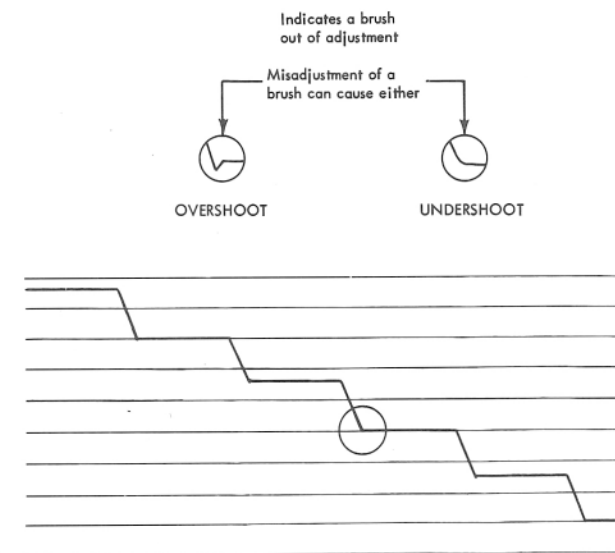

Figure 21. Emitter Brush Adjusted Correctly
- Shift the brush assembly until the line graph appears as shown in Figure 21.